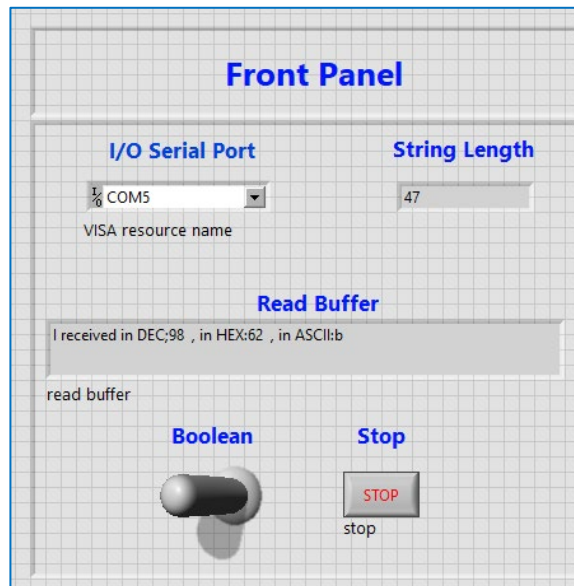

Figure 2. Front Panel view
2.- Open a new project in LabView and create the user interface. (Figure 2)